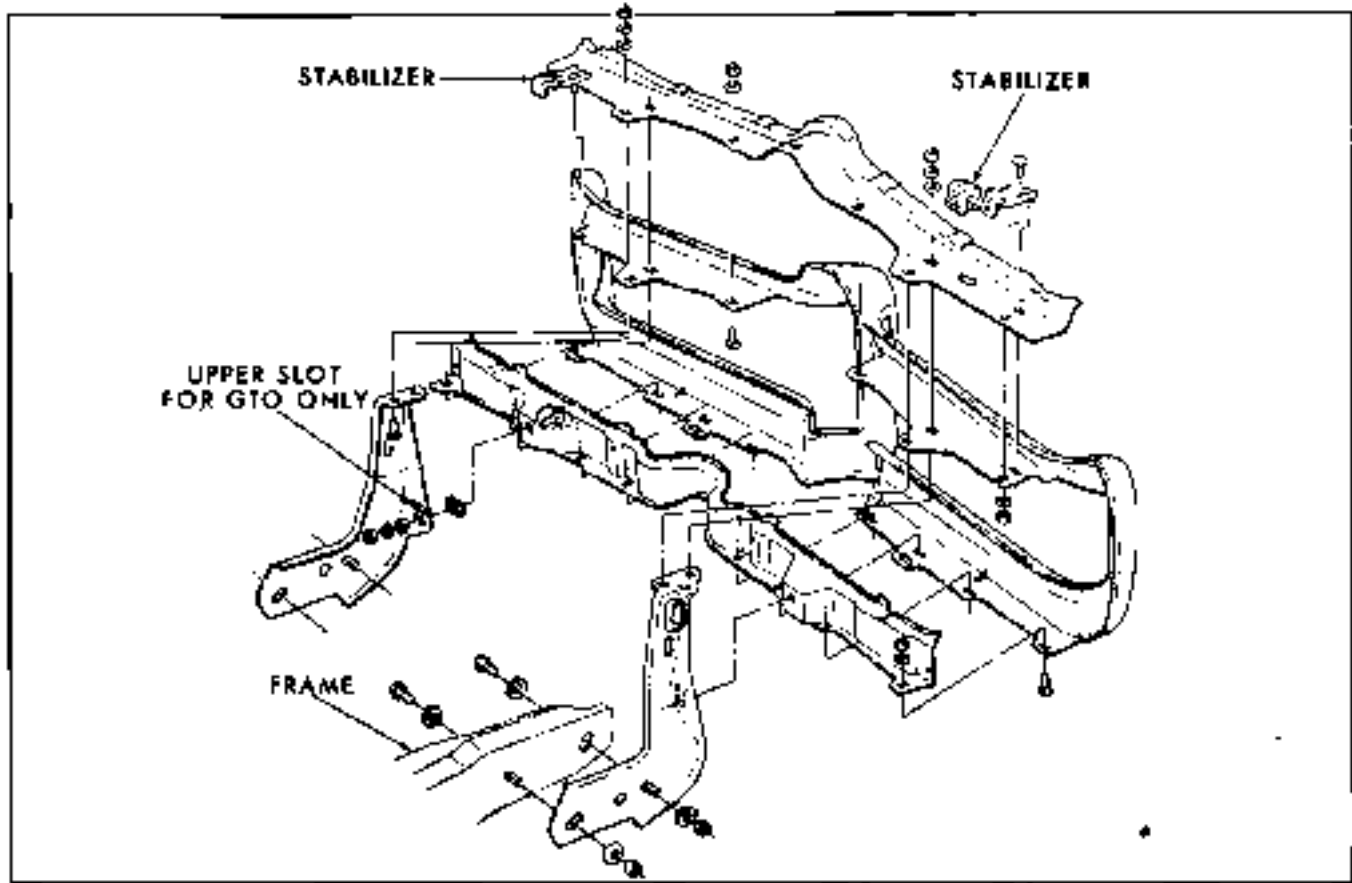

Fig. 14-3 Tempest Front Bumper
REMOVE TEMPEST BUMPER (Fig. 14-3 and 4)
3. Loosen front bumper stabilizers (Figs. 14-3 and 4). Support bumper and remove frame attaching bolts. With aid of helper, remove bumper assembly from car.